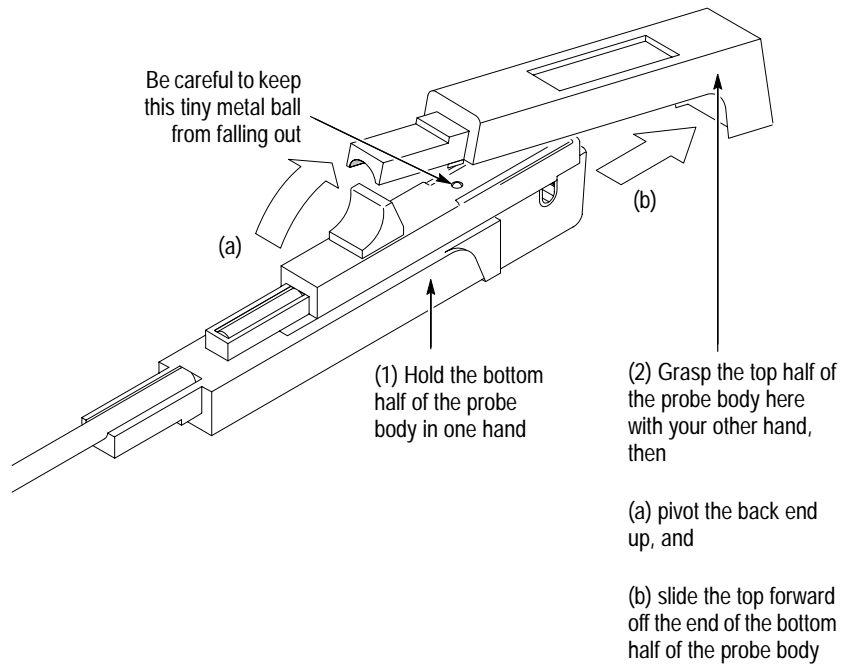

Figure 9: Removing the top half of the probe
3. Hold the probe in a top-up horizontal position and slide the top half of the probe body off as shown in Figure 9.